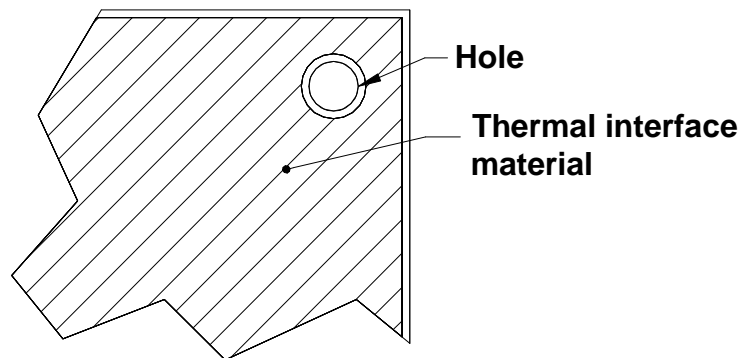

Figure 1 - Thermal Pad Design
- **Thermal interface material:** Due to the flatness irregularities of both the heatsink and power module baseplate, a thermal interface material must be used between the heatsink and the power module baseplate to minimize the thermal contact resistance. A conformal thermally conductive interface material or pad is required to fill the gaps. The pad should be between 0.005 to 0.008 inch thick and have a minimum thermal conductivity of 2 W/m-K. We suggest 0.005 inch thick Berquist QPAD3 thermal interface material. The interface material should completely surround the mounting hole/slot (see Figure 1). Pad clearance hole diameter should be 1.02 mm (0.040 inch) larger than heatsink/cold plate mounting hole. This will prevent excessive flexing of the base plate when torqueing in screws. Thermal grease is not recommended for the thermal interface material.